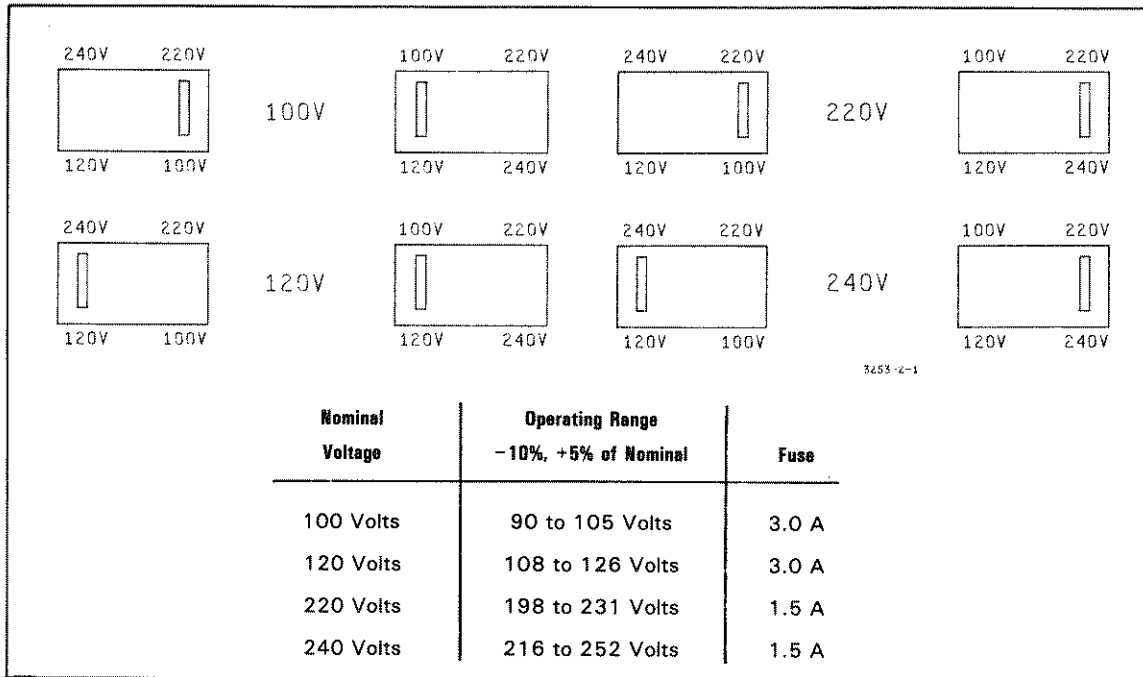

Figure 2-1. Line Voltage Selection.
2-9. Figure 2-1 provides instruction for line voltage and fuse selection. The 3253A line voltage is factory set for 120 V ac operation.
- ③ HP-IB Connector.
- ④ Sync output, BNC connection for TTL level trigger out.
- ⑤ Line voltage selector switch, refer to Figure 2-1 for instructions.
- ⑥ Three prong line voltage connector.
- ⑦ Chassis ground connection point, used in 3060A System.